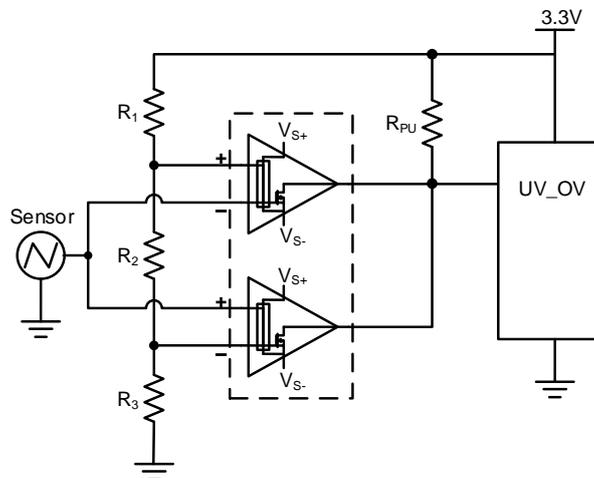

Figure 19. Window Comparator
Window comparators are commonly used to detect undervoltage (UV) and overvoltage (OV) conditions. Figure 19 shows a simple window comparator circuit.
Configure the circuit as shown in Figure 19. Connect V_{S+} to a 3.3V power supply and V_{S-} to ground. Make R_1 , R_2 and R_3 each 10MΩ resistors. These three resistors are used to create the positive and negative thresholds for the window comparator (V_{TH+} and V_{TH-}). With each resistor being equal, V_{TH+} is 2.2V and V_{TH-} is 1.1V. Large resistor values such as 10MΩ are used to minimize power consumption. The sensor output voltage is applied to